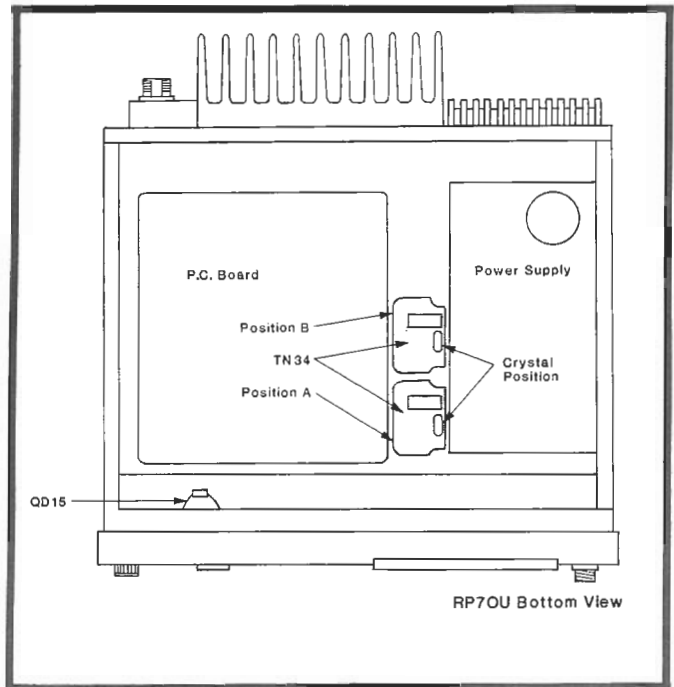

FIGURE 2. TONE BOARD INSTALLATION
2. Use the two screws provided with each TN34 to secure the tone board atop the posts within the repeater's chassis. Install the tone board so that the crystal is closer to the power supply (see Figure 2).